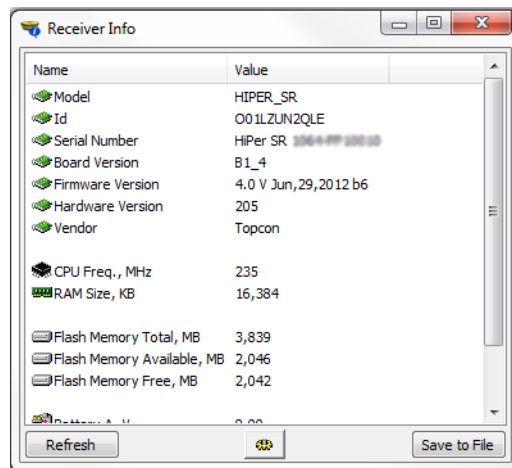

Figure 6: TRU – Receiver Info
6. In the TRU main window, click the **Information** icon. The **Receiver Info** window (Figure 6) appears.